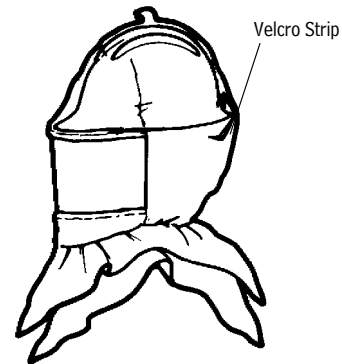

Figure 8
6. Loop the Velcro strip sewn inside the hood around the back of the cap and affix it to the corresponding Velcro tab previously installed inside the hard hat in step 4 (see Figure 8).